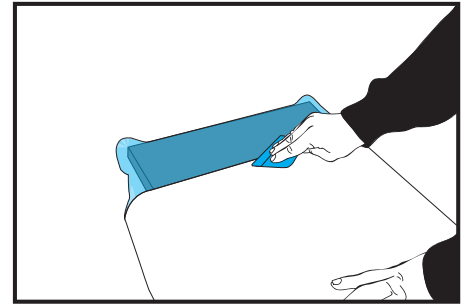

Figure 02
- › Start the film application from one of the edges of the horizontal table or tray surface. (FIG. 02)